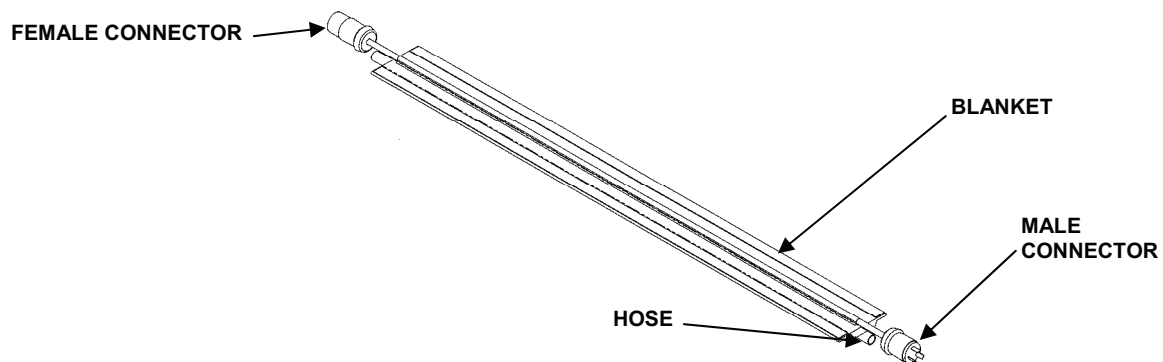

Figure 1. Electric Thermal Blanket.
7. Use one 10-foot with male/female plugs, one 20-foot with male/female plugs, and one 20-foot with male plug on the two reject hoses and the fabric hose. See Figure 1.